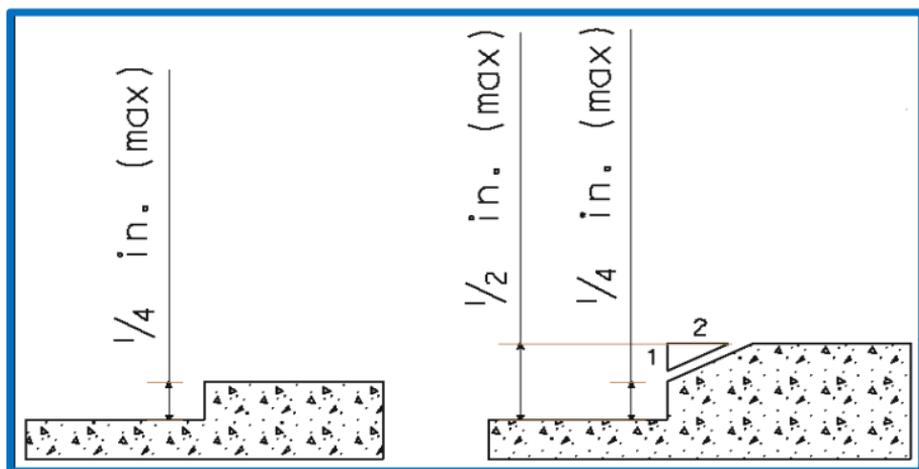

Figure 6 Surface Discontinuities
- Surface discontinuities must not exceed $\frac{1}{2}$ inch maximum. Vertical discontinuities between $\frac{1}{4}$ inch and $\frac{1}{2}$ inch should be beveled at a maximum of 2:1 or flatter, and bevels should be constant across the entire level change. New surfaces must not have vertical surface discontinuities. Curb ramps, landings, and gutter areas must not have surface discontinuities. (See Figure 6.)